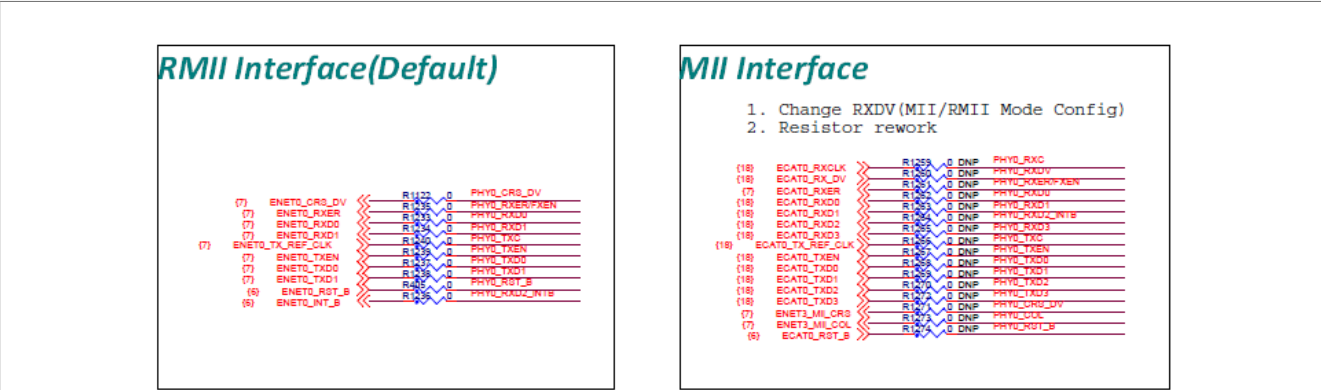

Figure 13. Resistor rework to support MII using ENETO
1. To use the PHY0 in MII mode, resistor rework is required as shown in Figure 13).